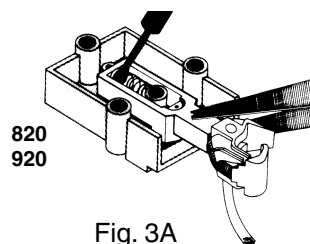

Fig. 3A
4. #820, 920 - Hold coupler and draft gear box together and install centering spring into spring slot using tweezers or a small screwdriver between the end coils (Fig. 3A). Place lid on draft gear box being careful not to dislodge centering spring.